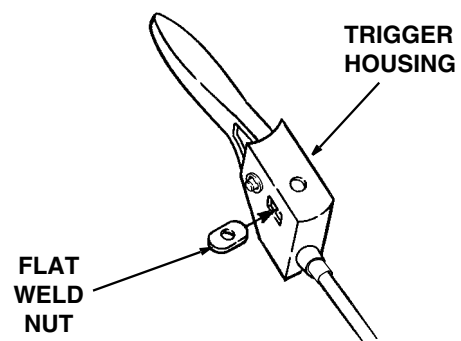

Figure 7
4. Slide the flat weld nut (17) into the release cable trigger housing. See Figure 7.